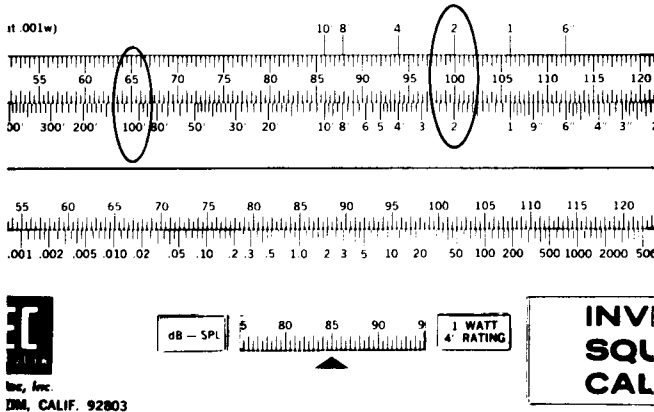

Figure 5
3. On the Distance Feet scale, find the distance in feet equal to the measured D_0 distance (100' for example). Directly above this distance on the dB-SPL scale read the dB figure (see Figure 5).